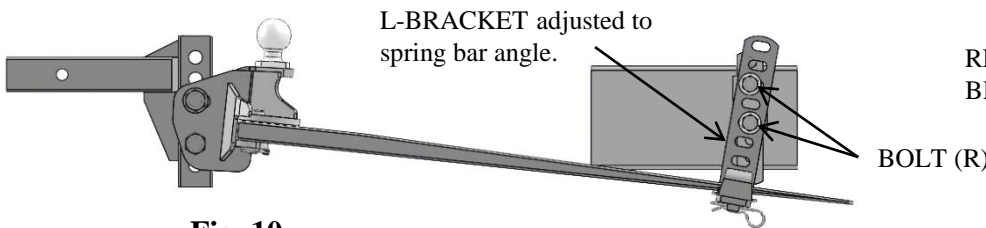

Fig. 10
- Always keep bolts (R) finger tight until the spring bars are in place and loaded with pressure on the L-brackets (L). This will allow the L-brackets (L) to adjust themselves to the spring bar angle giving the maximum contact with the friction pad (O) and resulting in better sway control. See Fig. 10 above. Tighten bolts (R) to 75 ft.-lbs.
- If you tightened the bolts before you applied the spring bar tension, loosen the bolts (R) slightly. Do not remove the bolts completely. They are under pressure from the spring bars. The L-bracket (L) will then adjust to the spring bar angle by itself. Re-tighten the bolts (R) to 75 ft.-lbs.